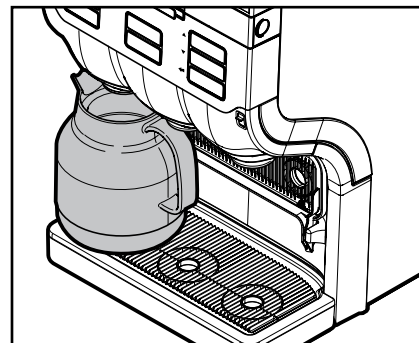

Fig. 12
- Place the pot on the drip tray. (Fig. 12)